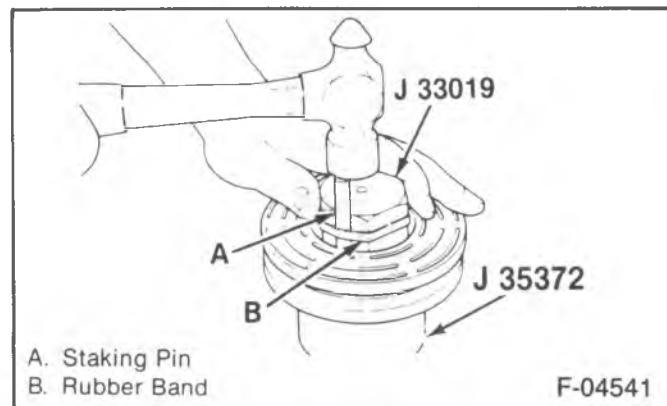

Figure 31—Bearing Staking
➡ Install or Connect (Figures 31, 32 and 33)
2. Bearing into the hub bore using J 9481-A and J 29886 (figure 31).
3. Stake the bearing using J 33019 at 120 degree intervals (figure 31).